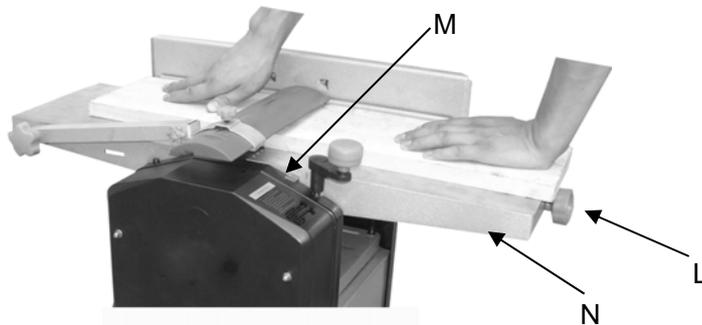

**Figure 8**
-Remove the blade guard K and place the dust chute E(See Figure 8).